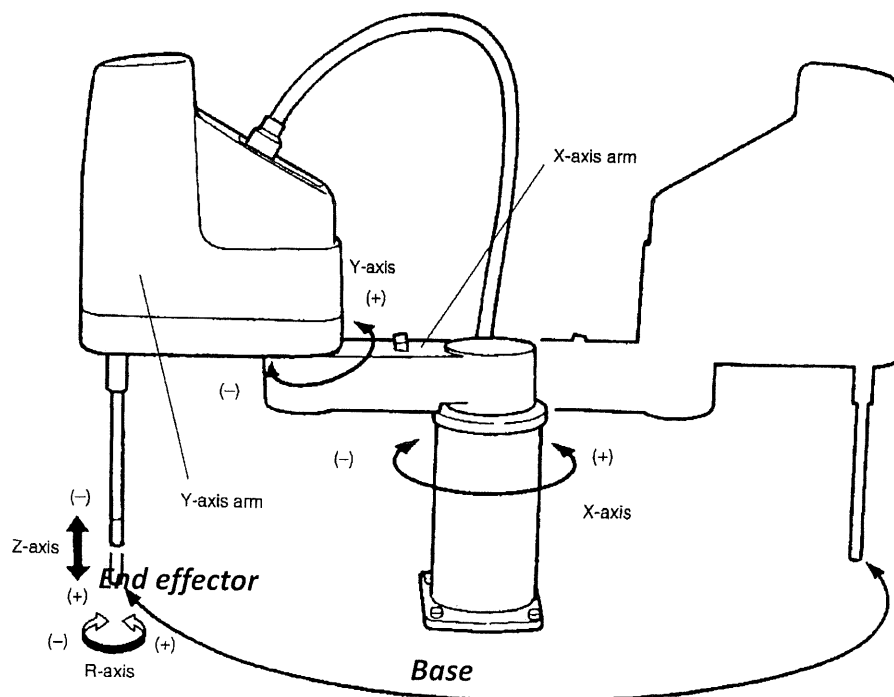

Figure 1: SCARA Robot
- a) Regarding the robotic arm shown in Figure 1, identify the links and joints of the robotic arm. (*You need to sketch for each link and joint of the robot*).